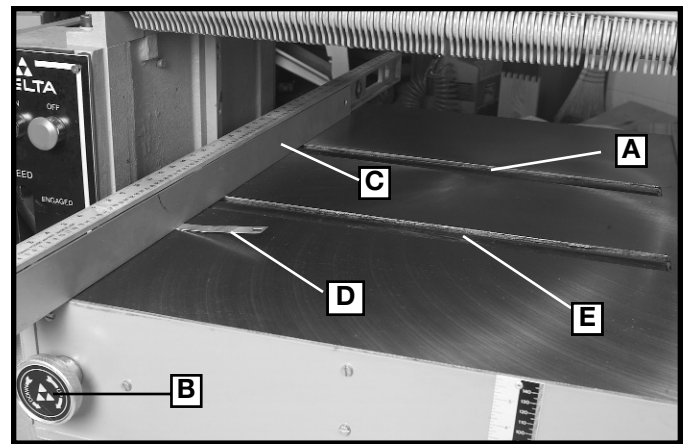
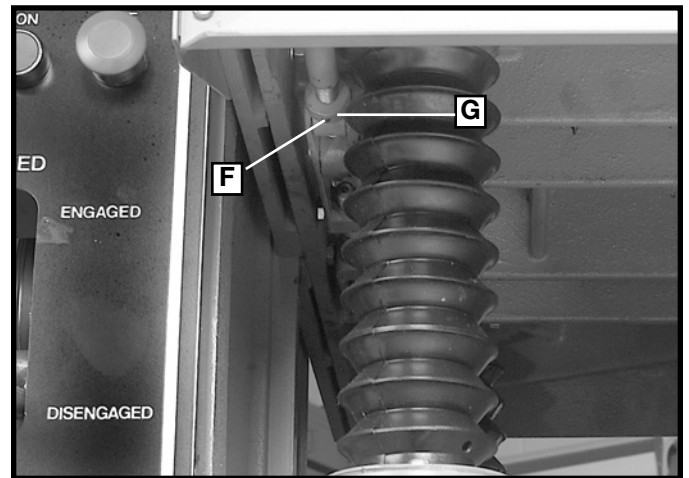

Fig. 23A
Fig. 23B
The height of the bed rolls (A) and (E) Fig. 23A, should be set between .002" and .004" above the table surface, with the bed rolls at their lowest position. To check the infeed bed roller height setting, proceed as follows:
2. Turn height adjustment knob (B), counterclockwise as far as it will go.
3. Place a straight edge (C), across the infeed and outfeed rollers on the left side of the table as shown.
4. With a feeler gauge (D), measure the gap between the table surface and the straight edge (C) near the infeed roll (E).
5. If an adjustment to the infeed roller (E), is necessary, loosen set screw (F) Fig. 23B, located underneath the left front end of the table.
6. Turn adjustment collar (G) Fig. 23B left or right as needed to attain proper height adjustment.
7. Tighten set screw (F) Fig. 23B after adjustment is made.